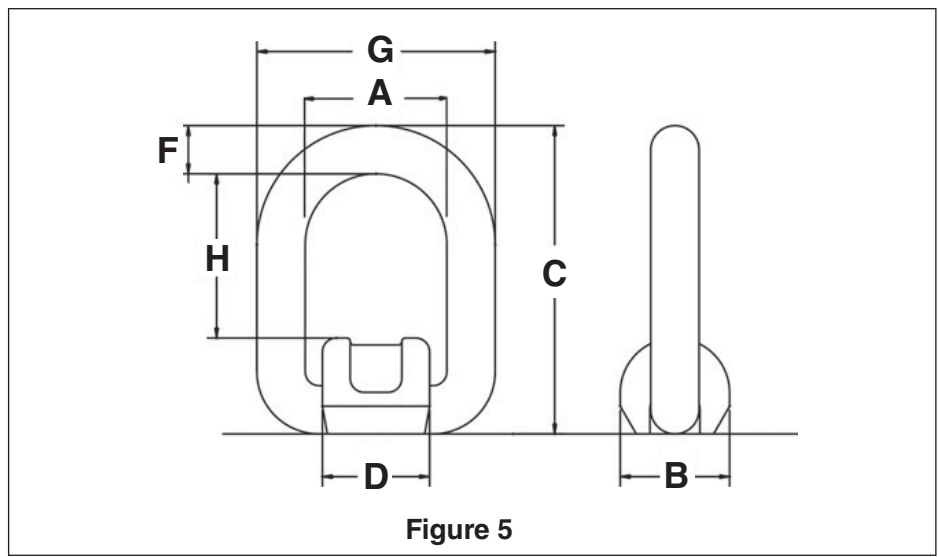

Figure 5
- E. Weld full length of "D" dimension on both sides of link base (Figure 5).
- When a hoist ring is used in a side load application, ensure equal loading on the pins by aligning the bail as shown in (Fig. 5).